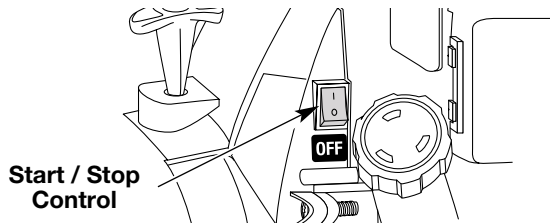

Fig. 8
3. Put the Start/Stop Engine Control in the **START [I]** position (Fig. 8).
1. Put the Start/Stop Engine Control in the **START [I]** position (Fig. 8).
2. To stop the engine, put the Start/Stop Engine Control in the **STOP [O]** position (Fig. 8).